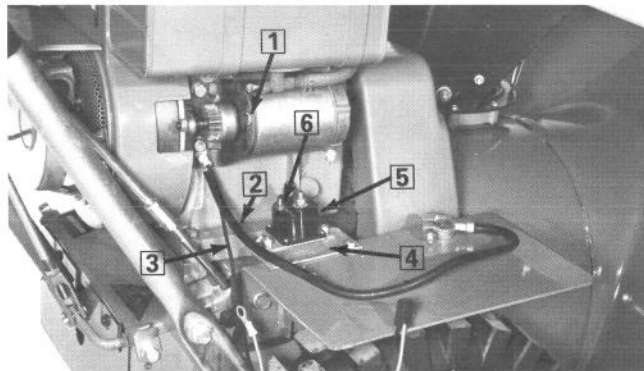

Figure 5
7. Secure starter motor assembly, negative (black) battery cable, and black grounding wire of charging plug (wire with ring terminal end) with two capscrews as shown (Fig. 5).
8. Secure solenoid mounting bracket to battery mounting bracket with two self tapping screws (Fig. 5).
9. Secure solenoid to solenoid mounting bracket with two capscrews, lockwashers, and locknuts. Make sure solenoid is positioned with small terminal positioned to the rear of the mounting bracket (Fig. 5).